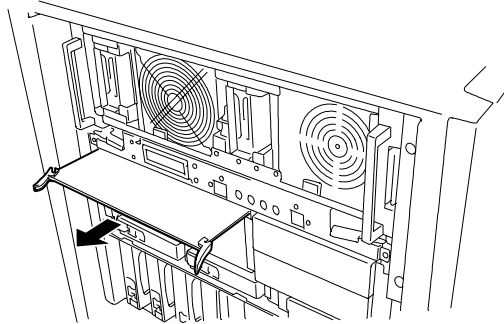

Figure 4-32. Removing the Memory Board
7. Holding the two fasteners, carefully pull the memory board out until the edge connectors are free. Place the memory board on an antistatic surface. See Figure 4-32.